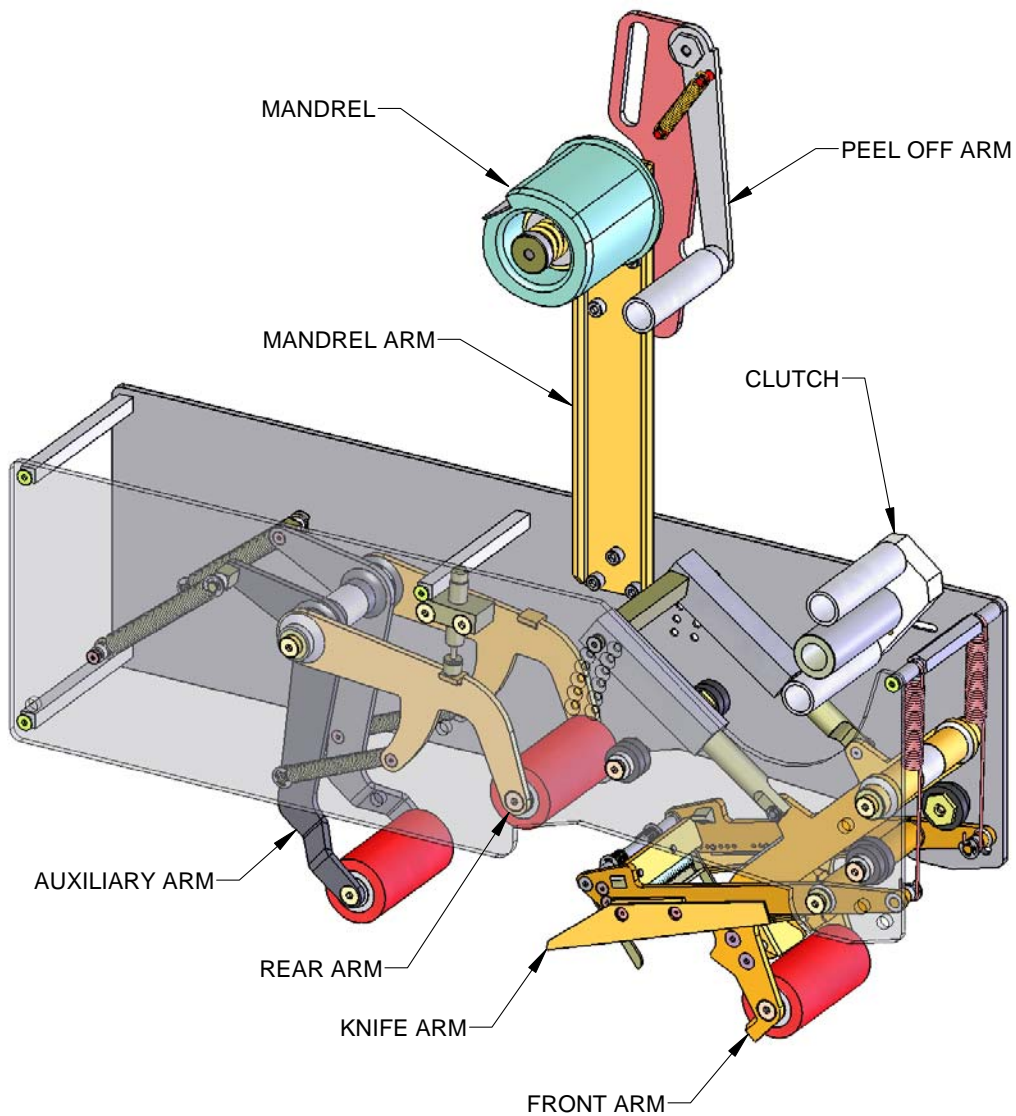

Figure 2
1.2 How the Tape Head Works – Figure 2